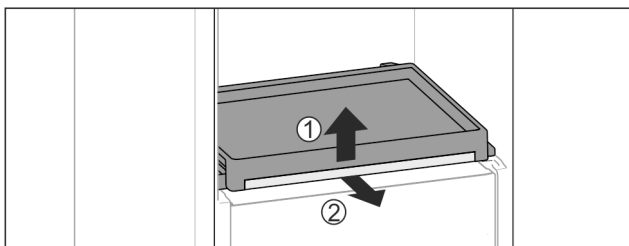

Fig. 113
- To remove the pull-out board with glass panel: Gently lift the glass panel at the front Fig. 113 (1) and pull out to the front Fig. 113 (2).